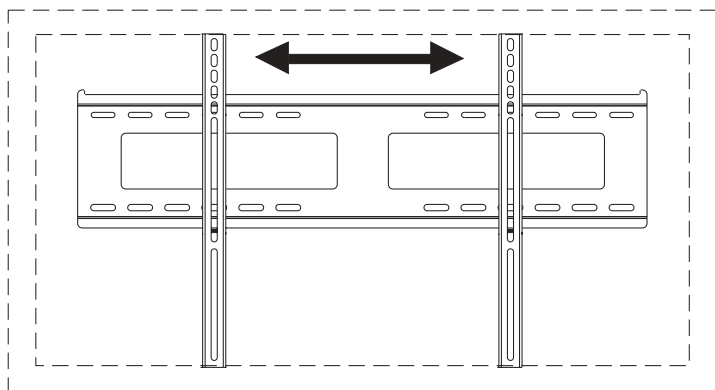

fig 3.2
- 3 Hook adapter brackets (**BB**) onto wall plate (**AA**). Then slowly swing screen in as shown. Turn safety screws, using allen wrench (**EE**), clockwise at least six times to prevent screen from being removed as shown in detail 1 of figure 3.1. Screen can be adjusted horizontally if desired as shown in figure 3.2.